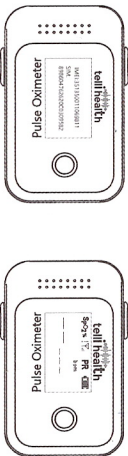

Figure 9
2. Press and hold the "POWER/FUNCTION" button for more than 3 seconds to show the IMEI and SIM card number. Press it again to exit, as shown in **Figure 9**.